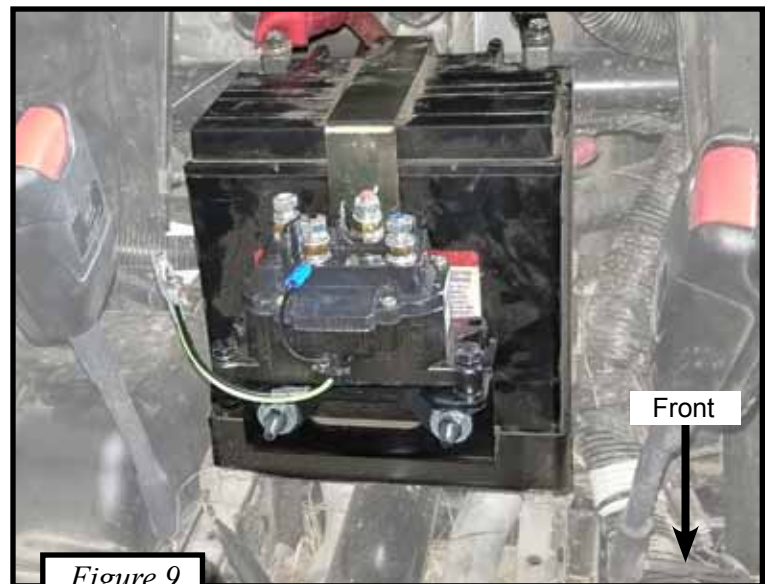

Figure 9
3. The contactor comes with four bolts to mount up. Attach the contactor to the contactor bracket using two of the mounting bolts. Using the two flange washers (7) and remaining contactor hardware attach the bracket to the battery tray. Shown in Figures 9 & 10.